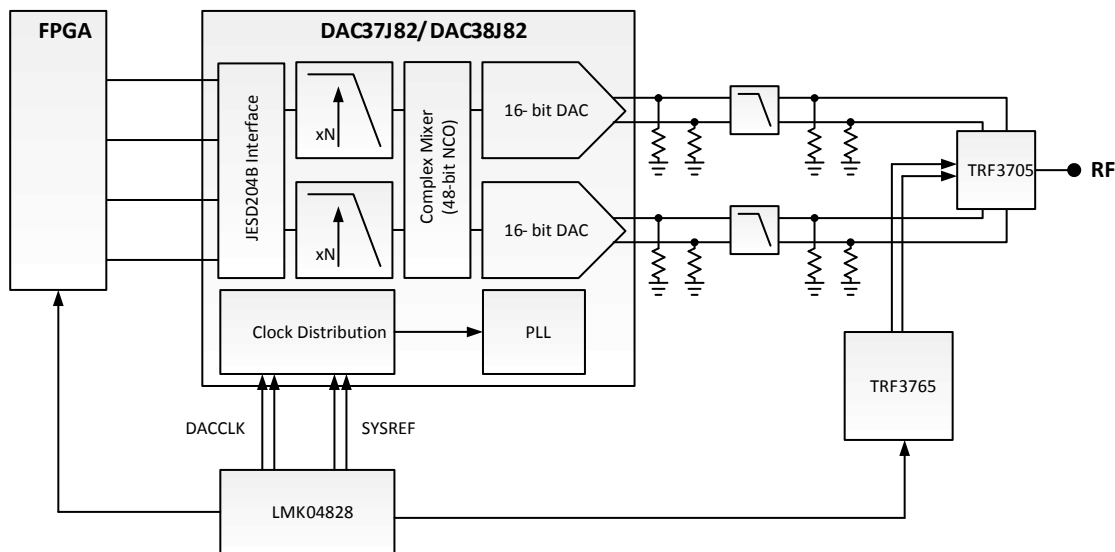

Figure 81. Low-IF Wideband LTE Transmitter Diagram
Figure 81 shows an example block diagram for a direct conversion radio. Here it has been assumed that the desired output bandwidth is 80-MHz which could be, for instance, four 20-MHz LTE signals. It is also assumed that digital pre-distortion (DPD) is used to correct 3rd order distortion so the total DAC output bandwidth is 240 MHz. Interpolation is used to output the signal at the highest sampling rate possible to simplify the analog filtering requirements and move high order harmonics out of band. The internal PLL is used to generate the final DAC output clock from a reference clock of 307.2 MHz. The complex mixer will be used to place the baseband input signal at a desired intermediate frequency (IF). The maximum serdes rate that the chosen FPGA supports is 12.5 Gbps and the minimum number of serdes lanes is desired.